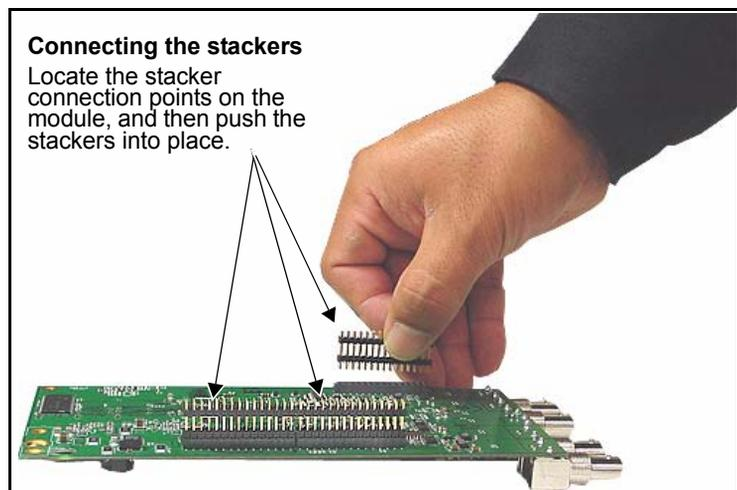

Figure C-24. Connecting Three Stackers to Module
4. Turn the board upside down and insert the three stackers into the corresponding connectors on the board. See Figure C-24.